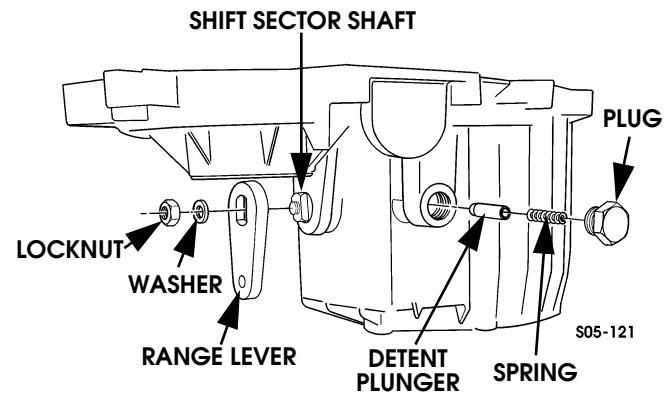

Figure 5-154: Range Cover and Shift Detent Installation
19. Install detent plunger, spring, and plug. Replace O-ring on plug before hand and tighten plug to 12-18 lb-ft (16-24 N•m) (Figure 5-154).
20. Install range lever on sector shaft, then secure lever with washer and nut (Figure 5-154). Tighten nut to 20-25 lb-ft (27-34 N•m).